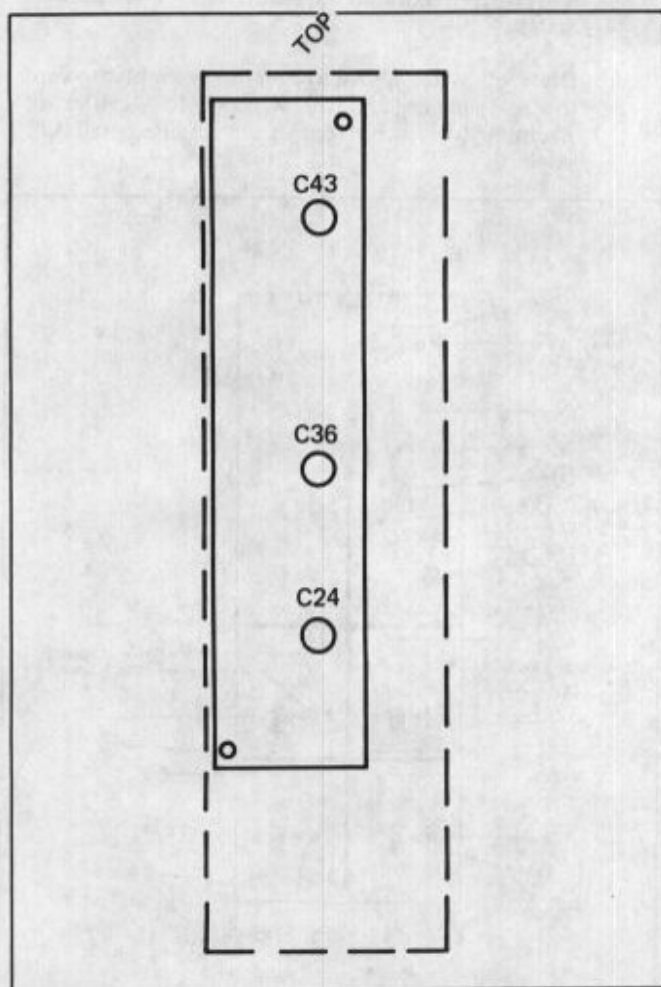

Figure 2-8. Trimmer Access Hole Locations, A12 thru A21
2.5.3 A21 Assembly Adjustment, 3.6 MHz and 36 MHz (See Figures 2-8 and 2-9)
2.5.4 A20 Assembly Adjustment, 3.7 MHz and 37 MHz (See Figure 2-8 and 2-10)